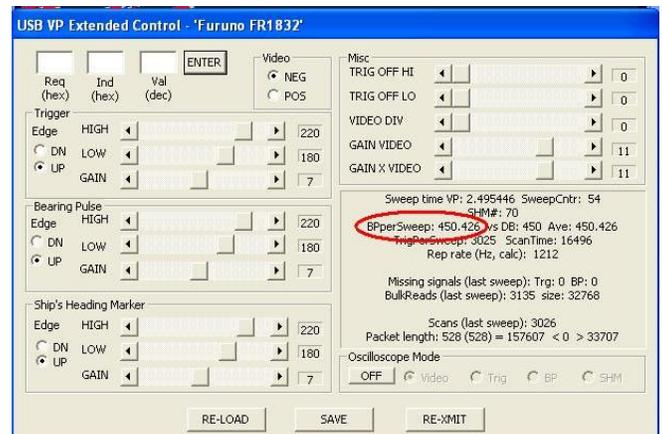

Figure 3. USB VP Extended Control in Radar Sample showing BPPerSweep value of 450.426.
- c. Record “BPPerSweep” value (Figure 3)